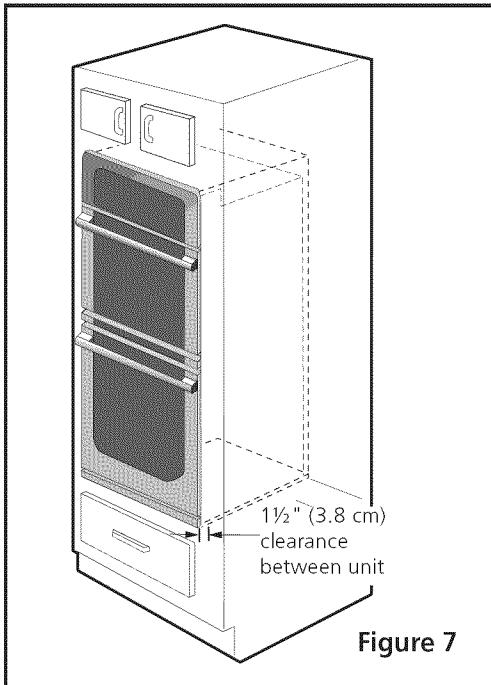

Figure 7
- 5** Insert the unit into the cabinet opening. Slide unit inward leaving $1\frac{1}{2}$ " (3.8 cm) clearance between the unit and front of cabinet (see Figure 7).